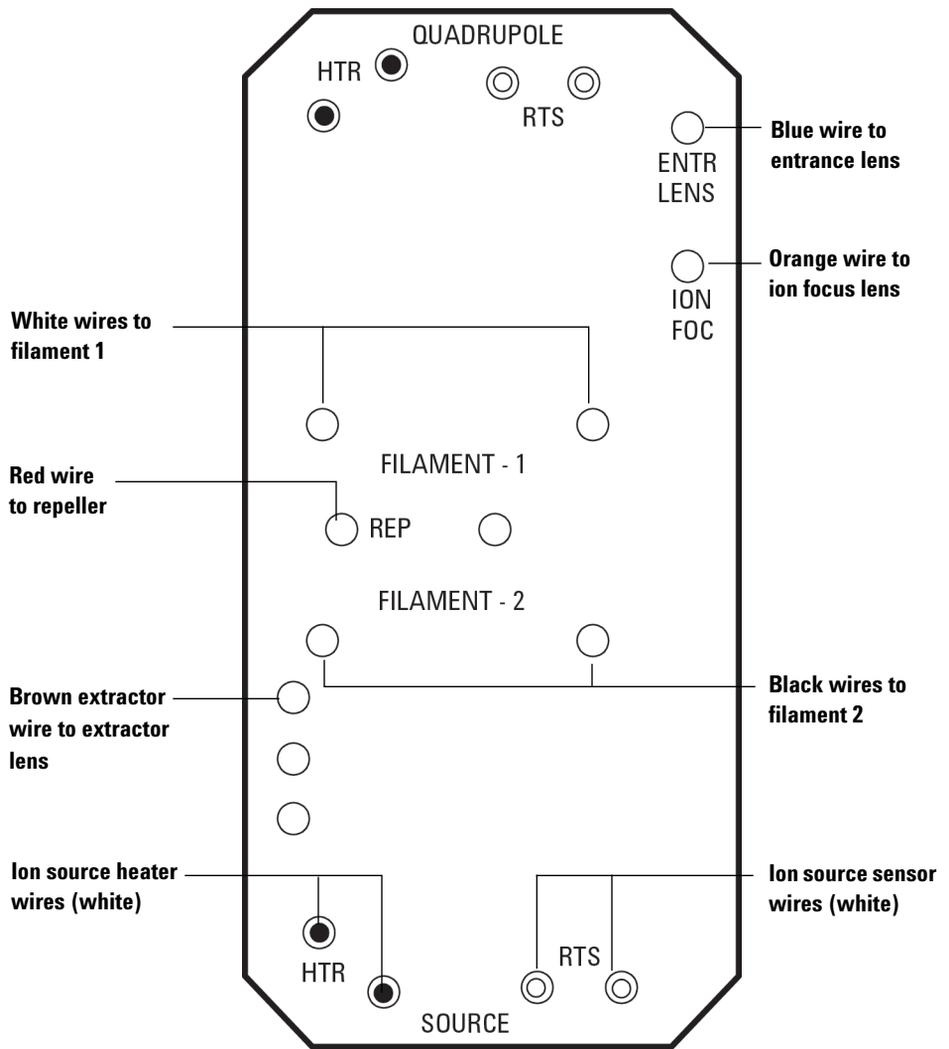
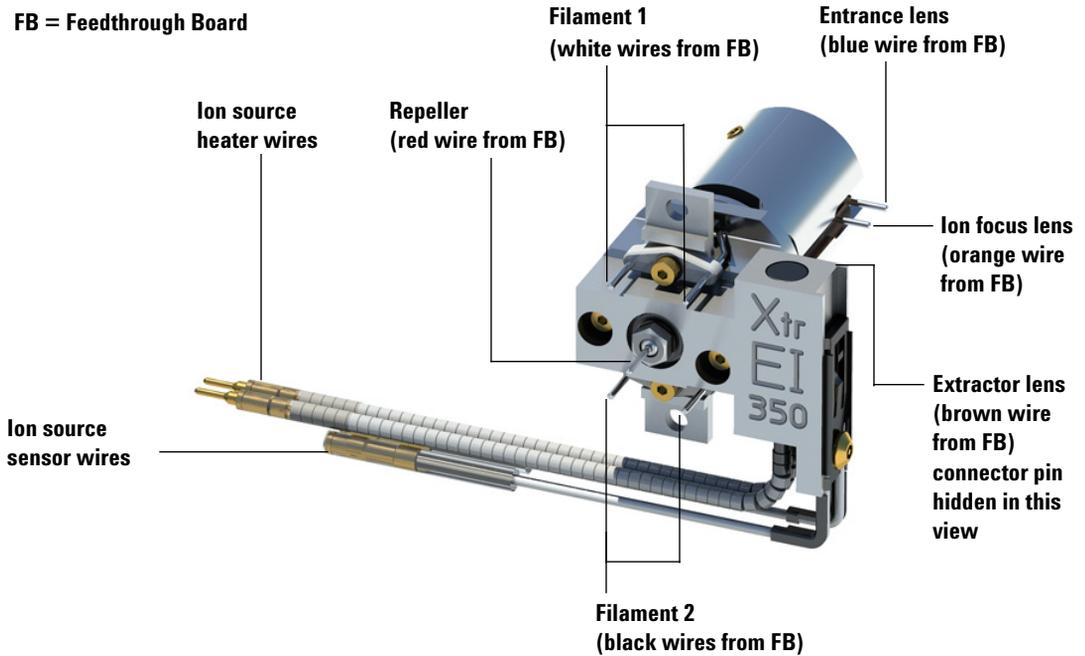

Figure 20 Feedthrough board wiring
Figure 21 Ion source wiring - Extraction source shown, standard ion source similar
- 3 Connect the ion source wires as shown in Figure 21 on page 121. The extractor source has an additional brown extractor wire that is missing from the standard source.
The wiring is described in Table 23 and illustrated in Figure 20 on page 120 and Figure 21 on page 121. The term “Board” in the table refers to the feedthrough board located next to the ion source.